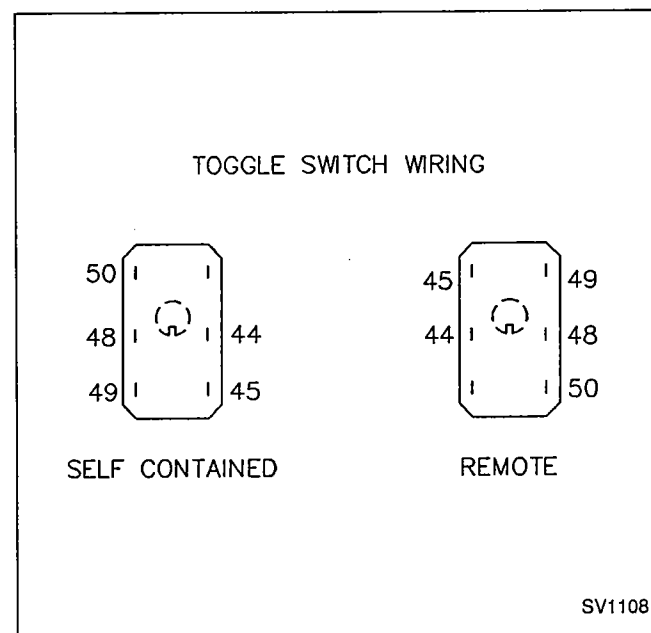

FIGURE 54. ICE/OFF/WATER PUMP SWITCH CHECK
2. Inspect switch (Figure 54) for correct wiring.